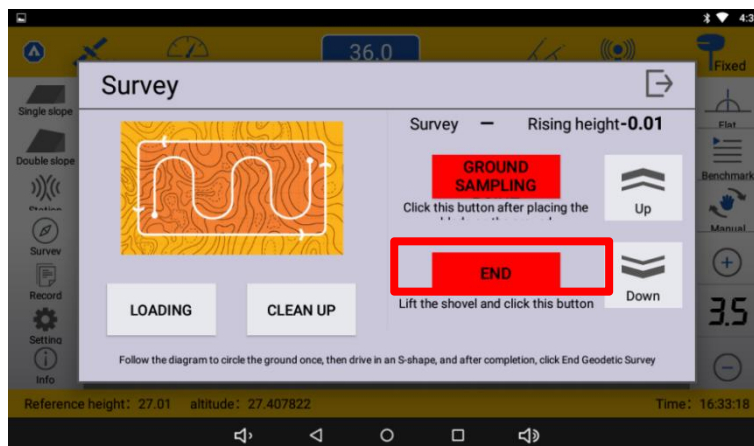

Figure 22
Step4. The tractor makes an S- or U-shaped path around the field. After the collection is completed, click the End button (it is best to have more than 100 measurement points; the more, the better). (Figure 22)